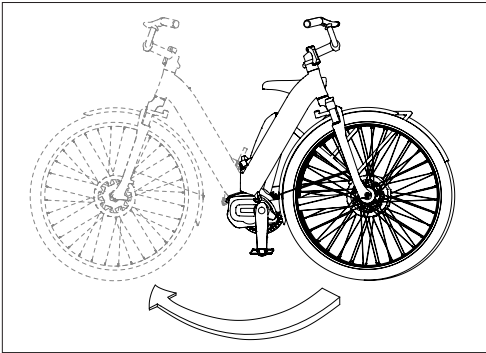

Fig. 43: Unfold the frame
6. Unfold the frame, pivoting the front half of the frame until it is aligned straight with the rear half (Fig. 43).